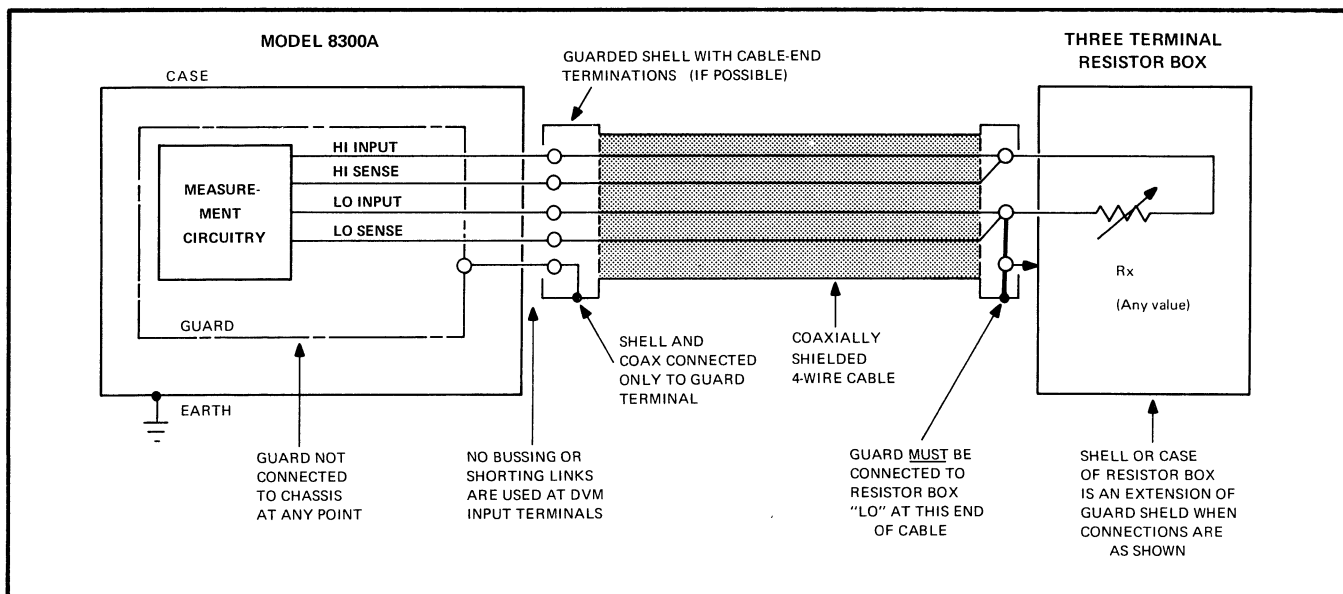

Figure 2-4. PROPER GUARD CONNECTIONS FOR FOUR-TERMINAL RESISTANCE MEASUREMENT SYSTEM
- g. If it is suspected that the resistance of the connecting leads will be excessive, due to lead length for example, an increase in accuracy will be obtained by utilizing the 4-terminal ohms capability of the DVM. The increase in accuracy will depend on the ratio of the lead resistance to the unknown resistance. For low values of unknown resistance, the 4-terminal connection affords a significant increase in accuracy. When properly connected, the connections should be as shown in Figure 2-4.